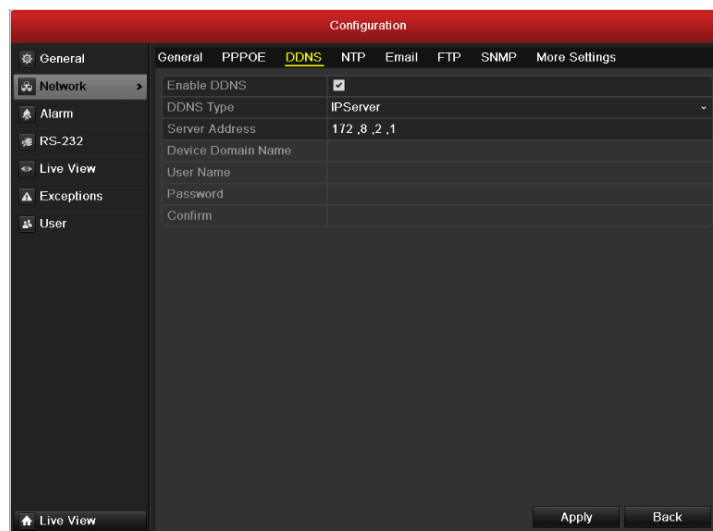

Figure 9.4 IP Server Settings Interface
2. Select the **DDNS** tab to enter the DDNS Settings interface, as shown in Figure 9.4.